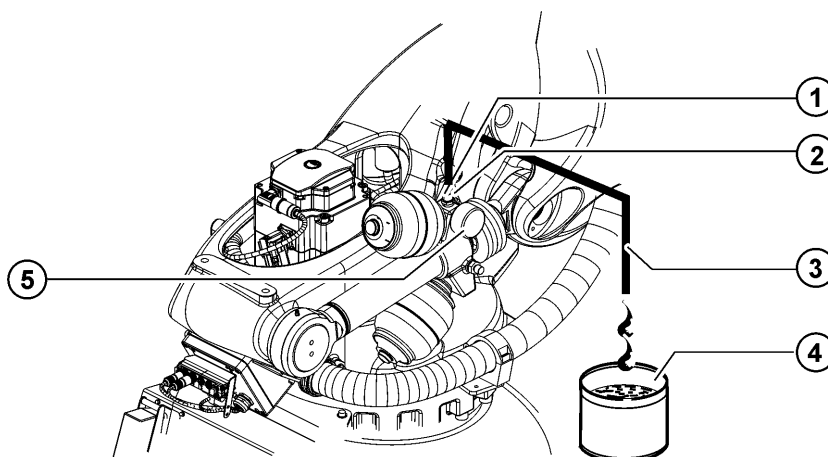

Fig. 10-2: Draining the hydraulic oil
2. Remove the screw cap and connect the tube to the vent connection (>>> Fig. 10-2).